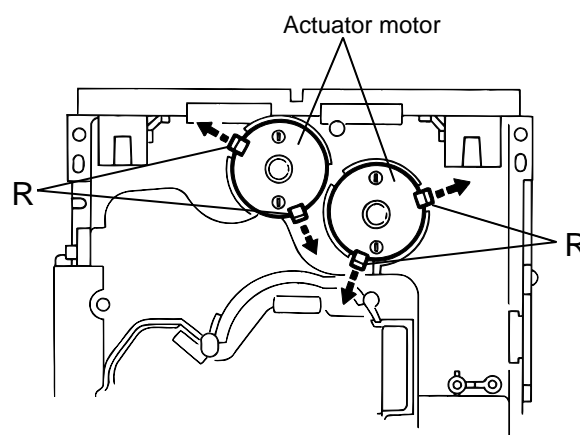

Fig.21
5. After turning over the chassis assembly, remove the actuator motor while spreading the four pawls "R" fixing the right and left actuator motors in the arrow direction (See Fig. 21).